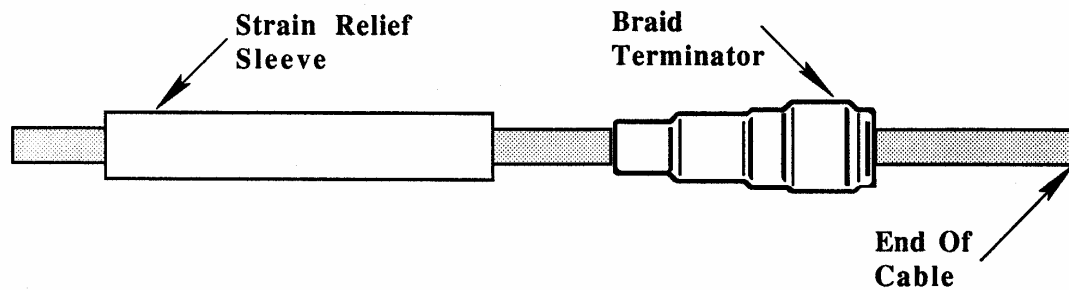

Figure 5-2. Sliding Strain Relief Sleeve and Braid Terminator onto Cable
1. Slide the strain relief sleeve and braid terminator over the cable, and push them back out of the way (Figure 5-2).
1. Make sure that the required strain relief sleeves and braid terminators are slid back over the prepared cable (see Figure 5-2).